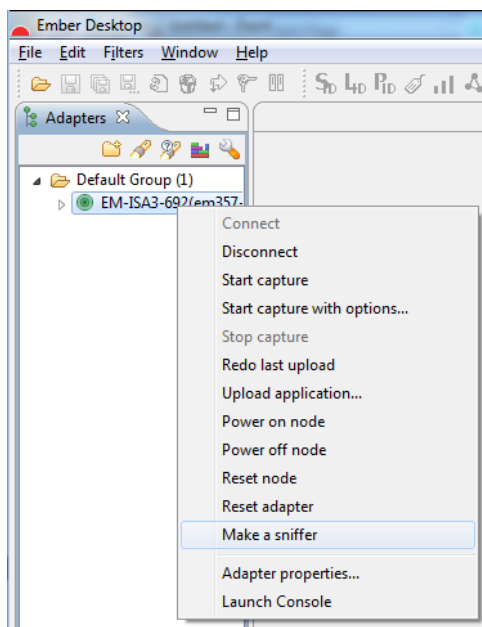

Figure 18. Make a Sniffer selection within Ember Desktop
1. Within Ember Desktop, right click on the Adapter and select “Make a sniffer”, as shown in Figure 18.